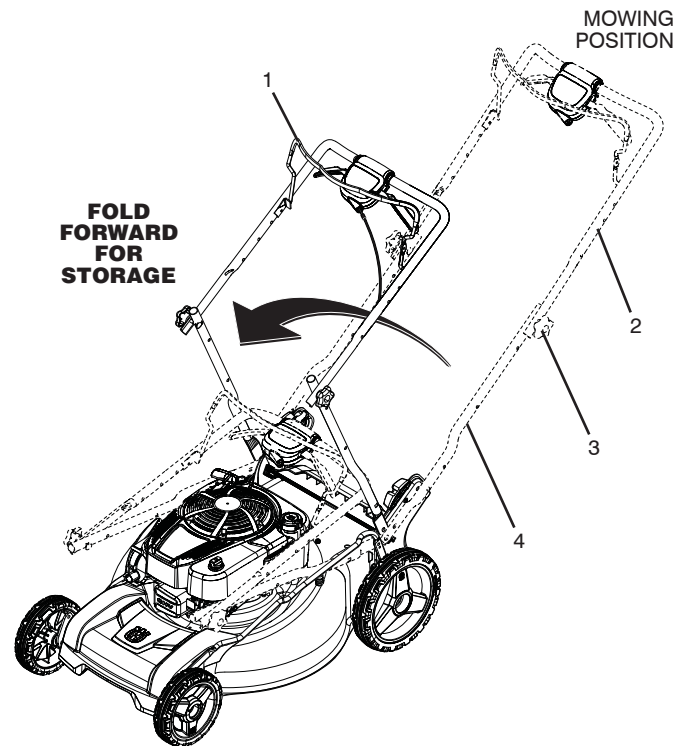

Figure 26
1. Loosen the two (2) handle knobs on sides of the upper handle and allow handle to fold down to the rear (Figure 26).